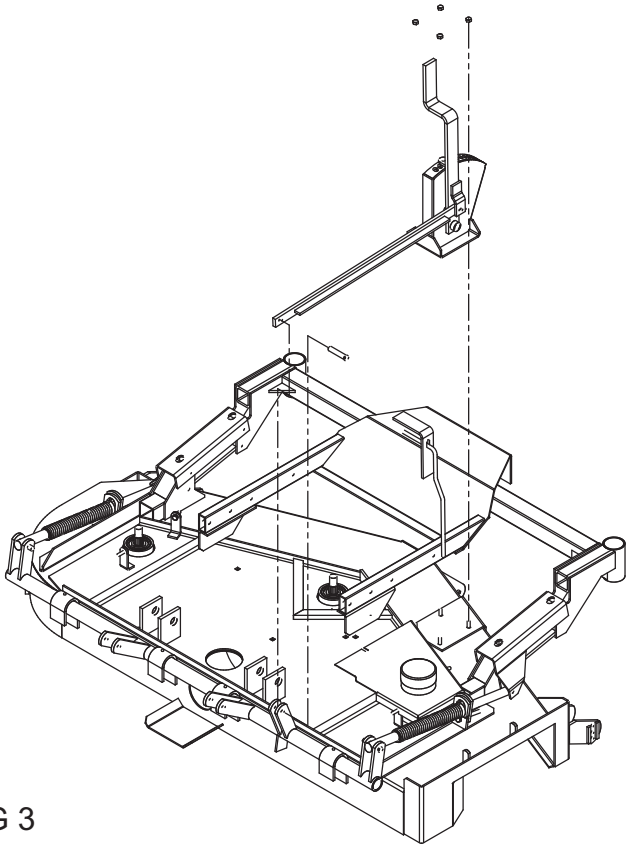

FIG 3
- A. Remove existing height adjustment components as shown in Fig. 3. The nyloc nuts and carriage bolts will be re-used in the following step.